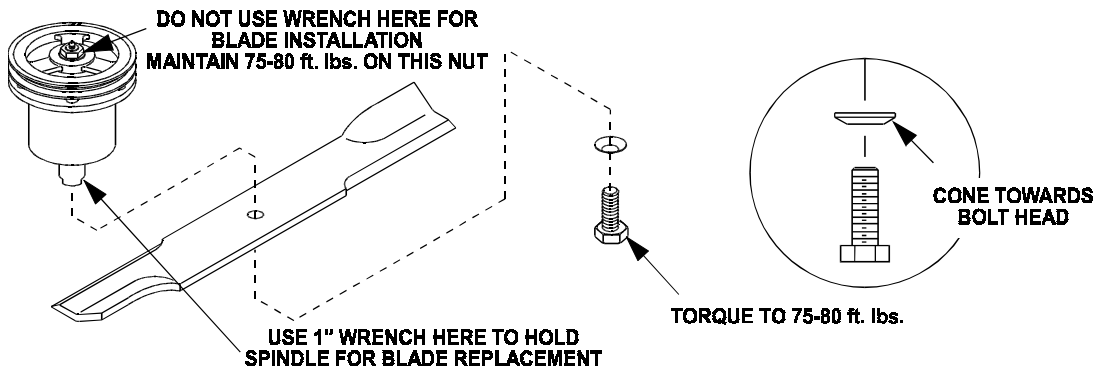

FIG. 4
- Re-install the blades (if they were removed) and torque blade bolts to 75-80 ft. lbs. Be sure the spring disk washer cone is installed toward the bolt head (See Figure 4).